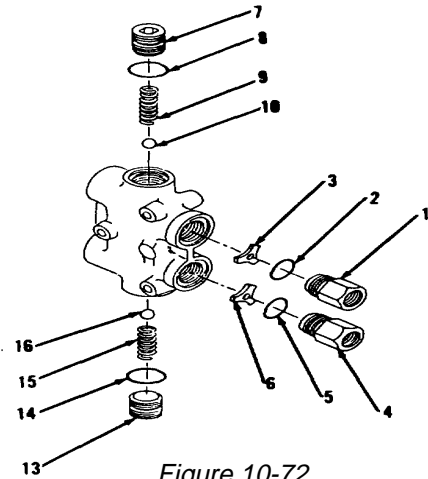

Figure 10-72.
7. Install ball (16), spring (15), new preformed packing (14) and plug (13, Figure 10-72). Tighten plug (13) to 26 ft-lb torque.
8. Install ball (10), spring (9), new preformed packing (8) and plug (7). Tighten plug (7) to 25 ft-lb torque.
9. Install choke (6), new preformed packing (5) and adapter (4). Tighten adapter (4) to 55 ft-lb torque.
10. Install choke (3), new preformed packing (2) and adapter (1). Tighten adapter (1) to 55 ft-lb torque.